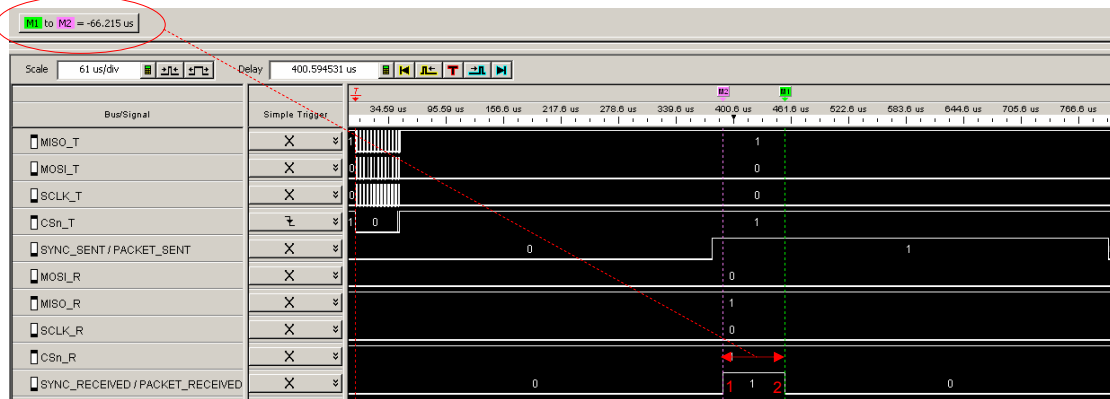

Figure 5. Address Filtering (IOCFGx = 0x06)
Since the receiver has the address 0x06 (ADDR = 0x06) and the second byte received after sync is 0x07, the packet will be discarded and GDOx will de-assert (2). Figure 5 shows that GDOx is de-asserted after 66 us (2 bytes must be received before the address is checked; $(2 \cdot 8) \cdot (1 / 250000) = 64$ [us] ((1) shows sync received). After GDOx is de-asserted, the radio will go back to RX state, regardless of the MCSM1.RXOFF_MODE setting.